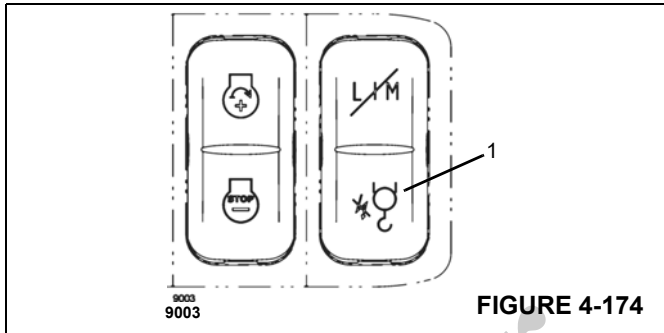

FIGURE 4-174
Press and hold the button (1), (Figure 4-174) – the swing gear is unlocked. The speed will then be reduced to 10%.